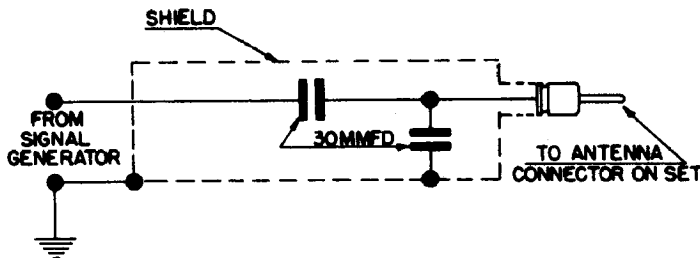

Figure 11. Dummy Antenna
Figure 11 shows the schematic of a recommended dummy antenna closely resembling actual antenna capacity to be used when aligning the R.F. section of the receiver.
1. Connect signal generator leads through dummy illustrated in figure 11 to antenna lead in socket on receiver.
3. Connect signal generator leads through dummy illustrated in figure 11 to antenna receptacle on the receiver.